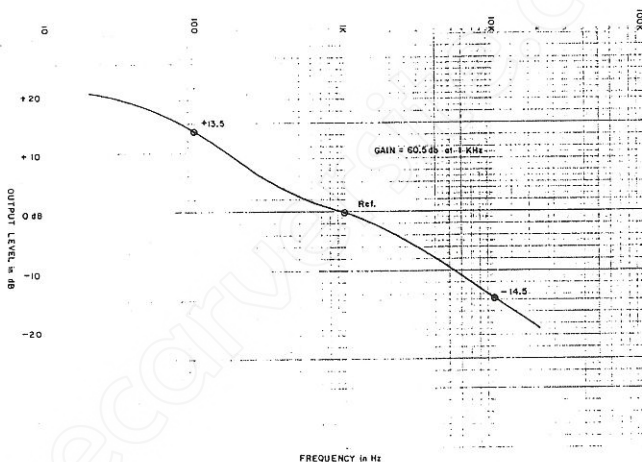

Figure 6-6. Phono 2 Response
- C) Referring to Figure 6-6 below, verify that the output signal levels are within ± 0.5 dB of the values indicated at each of the test points (circled). Adjust input frequency and repeat until all 3 test points have been verified. Table 6-6 lists the acceptable ranges.